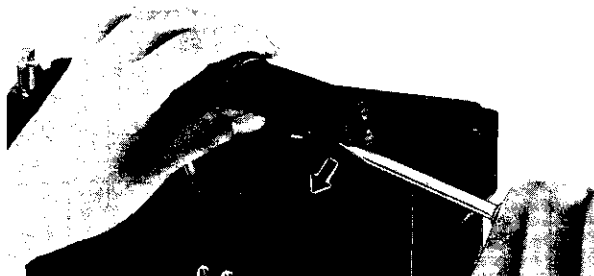

Fig. 6
- 1. Remove gyro antenna cover in the direction of arrow, as shown in fig. 6.